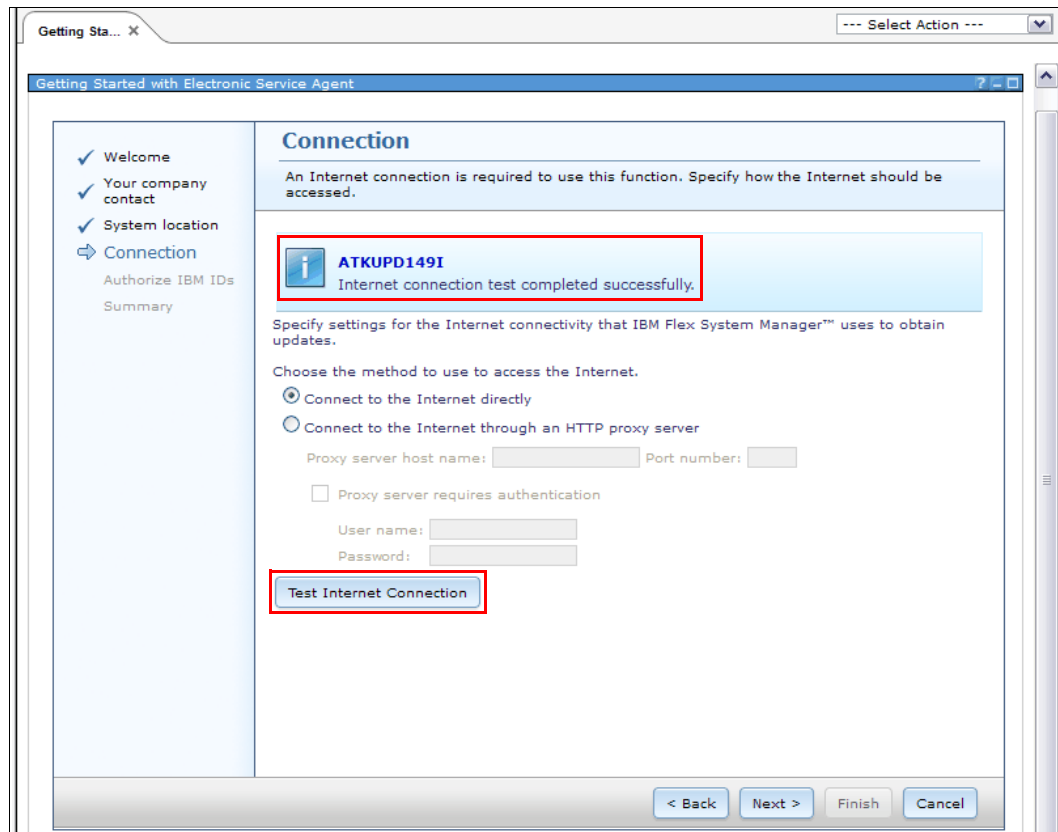

Figure 13-49 Select Internet access
4. Click **OK**. An Internet connection is required to use this function. Specify how the Internet should be accessed. Click **Test Internet Connection** to verify that your Internet access is working properly, as shown in Figure 13-49.